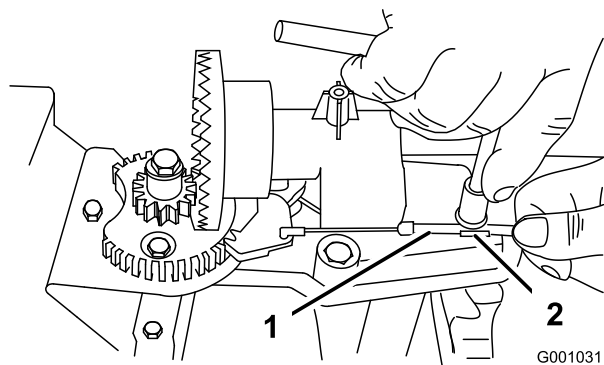
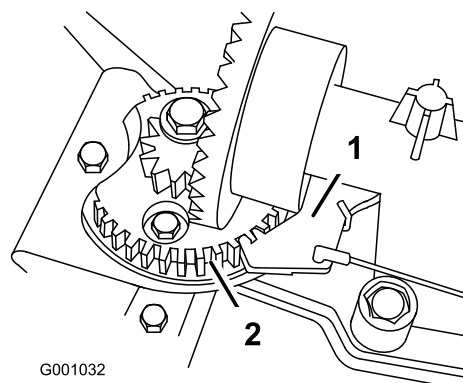

Figure 55
Figure 56
2. Loosen the bolt on the cable clamp (Figure 55).
3. Grasp the cable conduit and move it toward the front of the machine until the discharge chute latch fully engages the gear teeth (Figure 55 and Figure 56).
Note: The latch is spring loaded and will naturally move into the teeth of the gear (Figure 56).